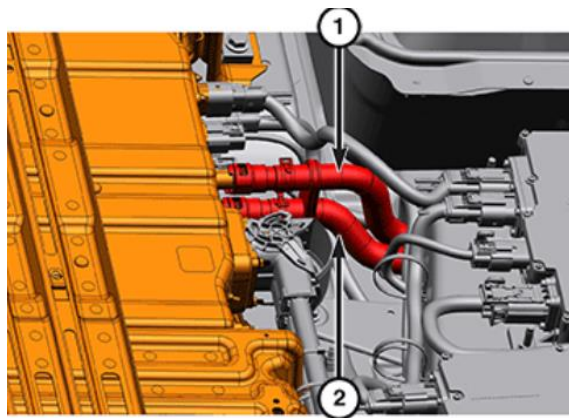

Figure 14 – Coolant Hoses
21. Using suitable hose-pinching pliers, clamp-closed the coolant inlet (1) and outlet (2) hoses near the high-voltage battery (Figure 14).